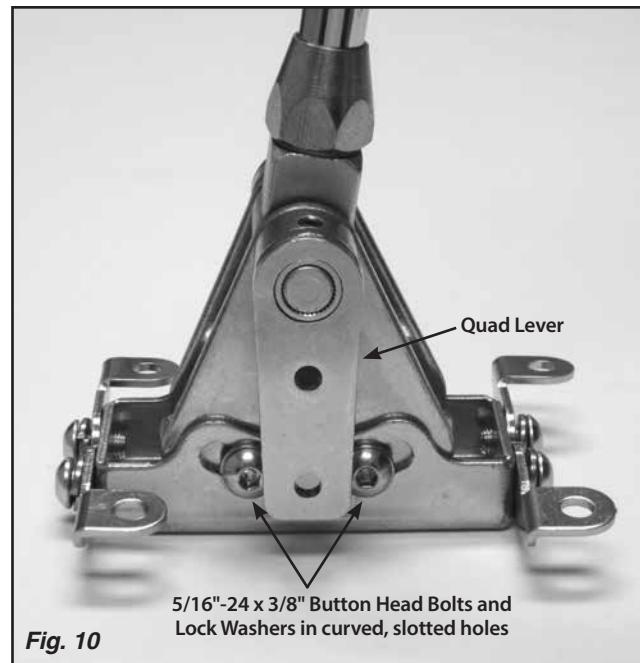

Fig. 10
**Step 12:** Make sure the two 5/16"-24 x 3/8" button head bolts that are in the curved, slotted holes in the left side of the floor mount mounting bracket are tight. **Fig. 10** Place the Shifter in the desired location on the vehicle's floor. Make sure the shifter lever will not interfere with the dash when in Park, or with the seat when in low gear. The shifter assembly may be tilted forward or backward if needed by loosening the two 5/16"-24 x 3/8" button head bolts that are in the curved, slotted holes in the left side of the floor mount mounting bracket. Retighten the button head bolts in the curved, slotted holes once you have the shifter assembly at the angle you want.